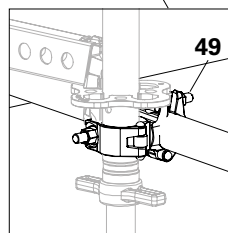

Fig. C4.06a
2. Install the inner tube or scaffold tube on the outer base standard (**12**) with a swivel coupling (**49**). Tighten the swivel coupling. (Fig. C4.06a)